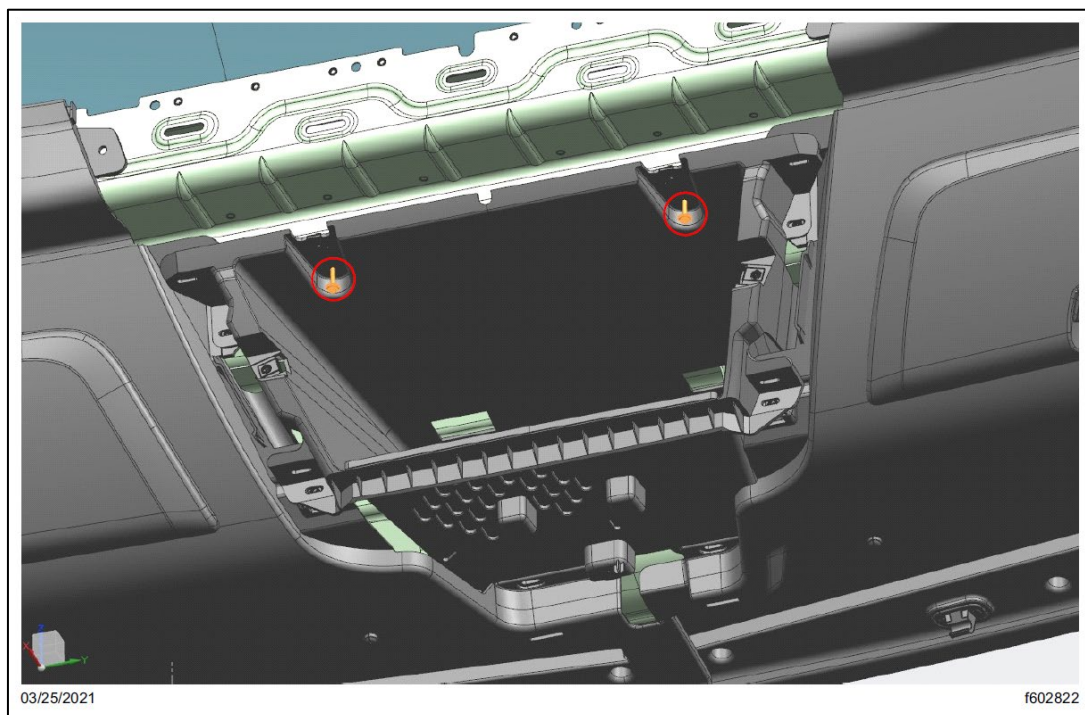

Fig. 49, Fasteners That Attach the Center Storage Bin to the Cab Roof
8.6. Remove the two fasteners that attach the center storage bin to the cab roof. See Fig. 49.